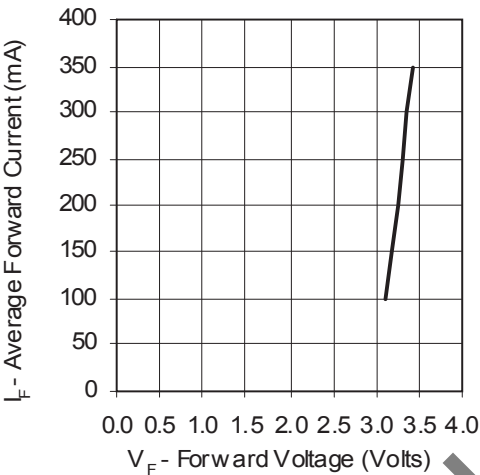

Figure 3a. Forward Current vs. Forward Voltage for White, Warm White, Green, Cyan, Blue, and Royal Blue.
2. Dynamic resistance is the inverse of the slope in linear forward voltage model for LEDs. See Figures 3a and 3b.